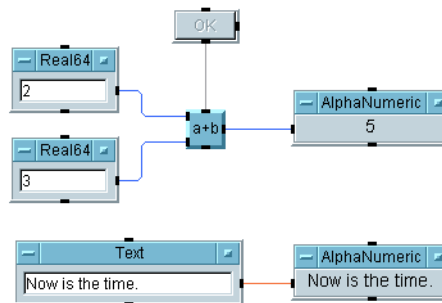

Figure 8-5. A Program with Two Parallel Threads
- **Threads** – Objects connected through data and sequence lines, which are solid, form a thread. Objects connected only through control lines, which are dashed, are not considered to be in a thread. A program can contain several threads. For example, the program in Figure 8-5 contains two parallel threads. The threads are independent because they are not connected by data or sequence lines.